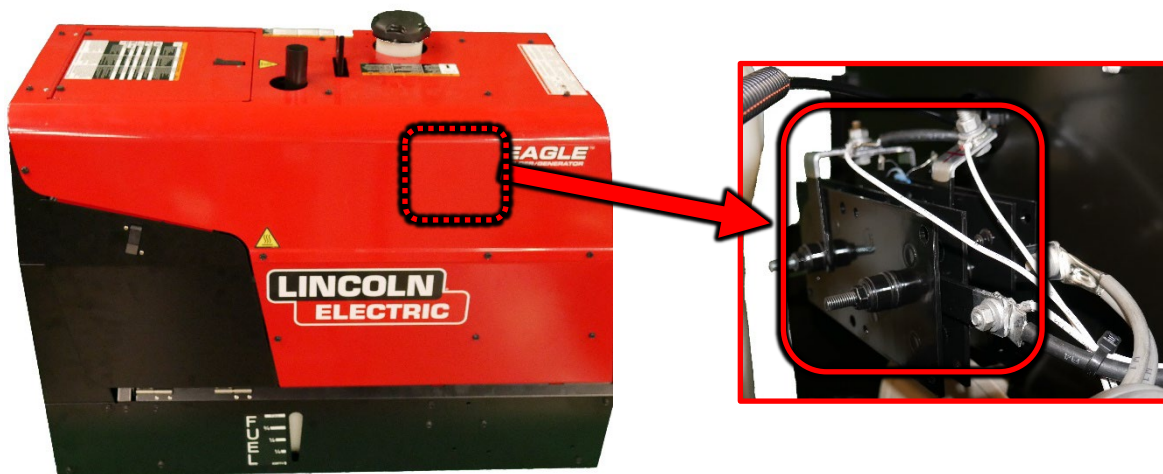

Figure F.1
1. For location of the D1 Bridge Rectifier refer to Figure F.1.